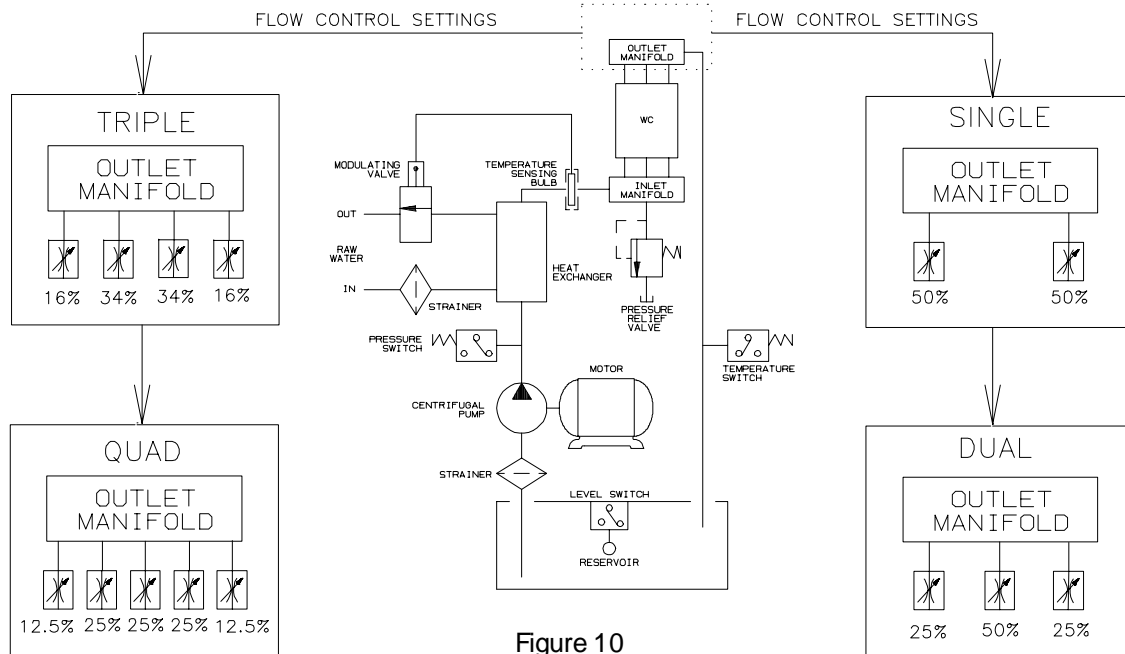

Figure 10
- 2.5.1 Coolant supply connections to the tensioner should provide a parallel flow through each section of the tensioner. Series flow is not generally recommended, contact Airflex for specific applications. Inlet and outlet coolant manifolds must be provided with flexible connecting hose to each tensioner coolant section. Coolant supply connection to the tensioner must be flexible to allow axial travel of the pressure plate and reaction plate during tensioner operation. Coolant and coolant supply lines should be free of foreign material (a 500 micron water filter is recommended). Reductions in the recommended line diameter should be avoided. Avoid loops and bends in the lines which may create air pockets, which substantially reduce the flow of coolant. Figure 10 illustrates a typical closed loop liquid to liquid coolant system. The heat exchanger and temperature control would be replaced with a radiator, fan and motor in a liquid to air system.
2.5.2 Figure 10 shows the flow control valve settings for each type of element depending on the number of friction surfaces to be cooled.